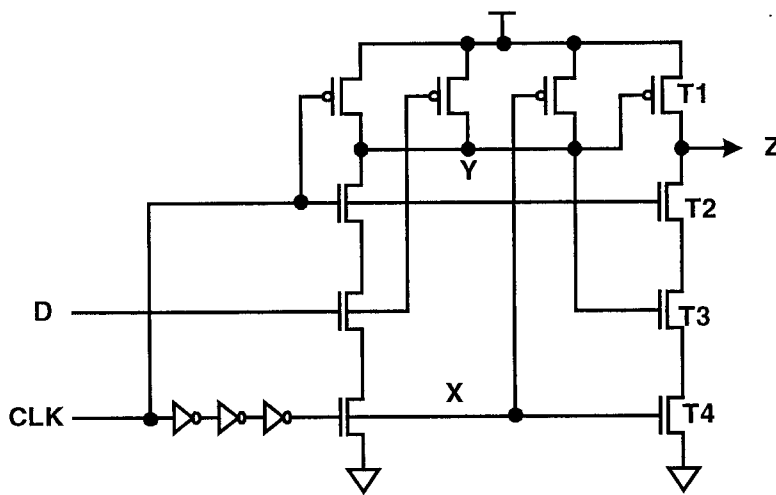
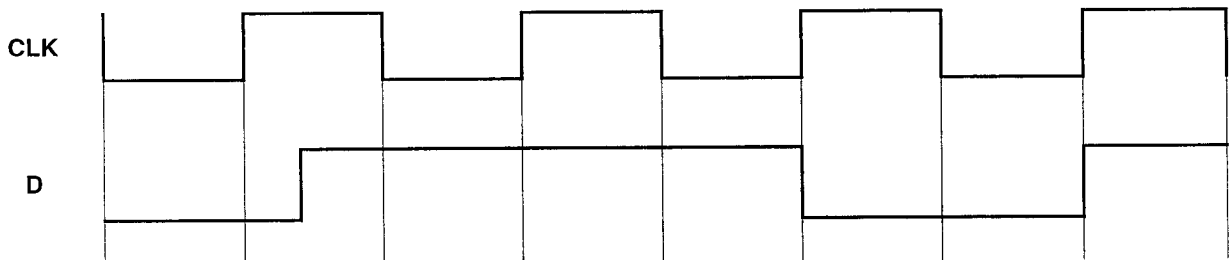

Figure 5.1
Figure 5.2
b) Figure 5.1 shows a synchronous circuit used in the AMD K-6 microprocessor. Figure 5.2 shows the signals at CLK and D. Draw a timing diagram showing the signals CLK, D, X, Y and Z, and the state of transistors T1, T2, T3 and T4. The timing diagram should be labelled with the following signal states:
- driven low (DL)* - a path to ground exists,
- driven high (DH)* - a path to V_{dd} exists,
- charged low (CL)* - high impedance with no stored charge, and
- charged high (CH)* - high impedance with stored charge at V_{dd}
- don't know (X)* - unknown level.